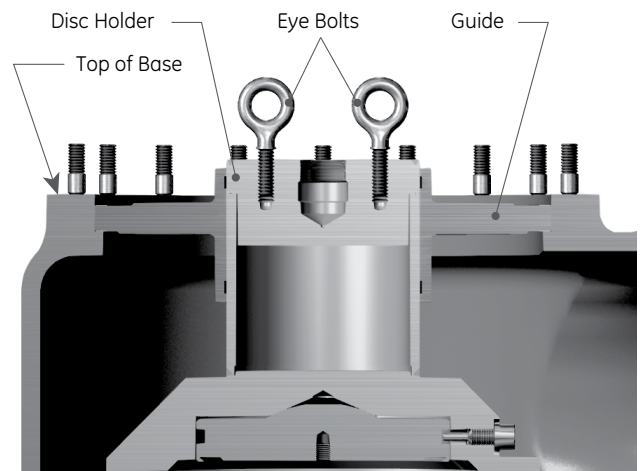

Figure 28: Disc Holder Removal Tool (V & W)
On “V” and “W” orifice valves thread two 5/8-11 NC Standard Eye Bolts into the top of the Disc Holder as shown in Figure 28. Lift out and remove the Guide and Disc Holder. Remove the Eye Bolts from the top of the Disc Holder.
- b. Start inserting special drift pins into the holes in the disc holder (Figure 28) with the tapered portion of the pins working against the top of the disc, as indicated. See Figure 93 and Table 21 in the Maintenance Tools and Supplies section for drift pin size.